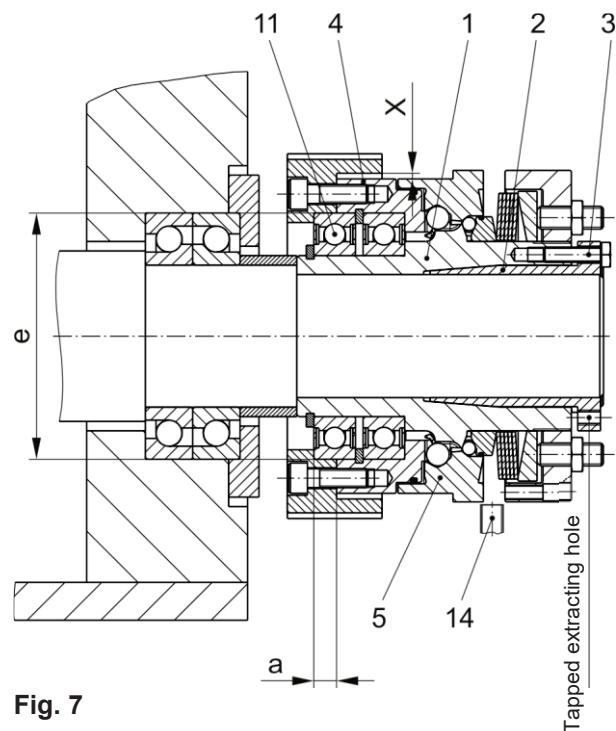

Fig. 7
In order to prevent the output element (pressure flange (4)) from moving axially in the direction of the thrust washer (5) during overload, please make sure that the bearing of the output element is designed as a locating bearing (Fig. 7).
Output elements which protrude over the thrust washer (5) (see Fig. 7) must be designed with sufficient radial air.